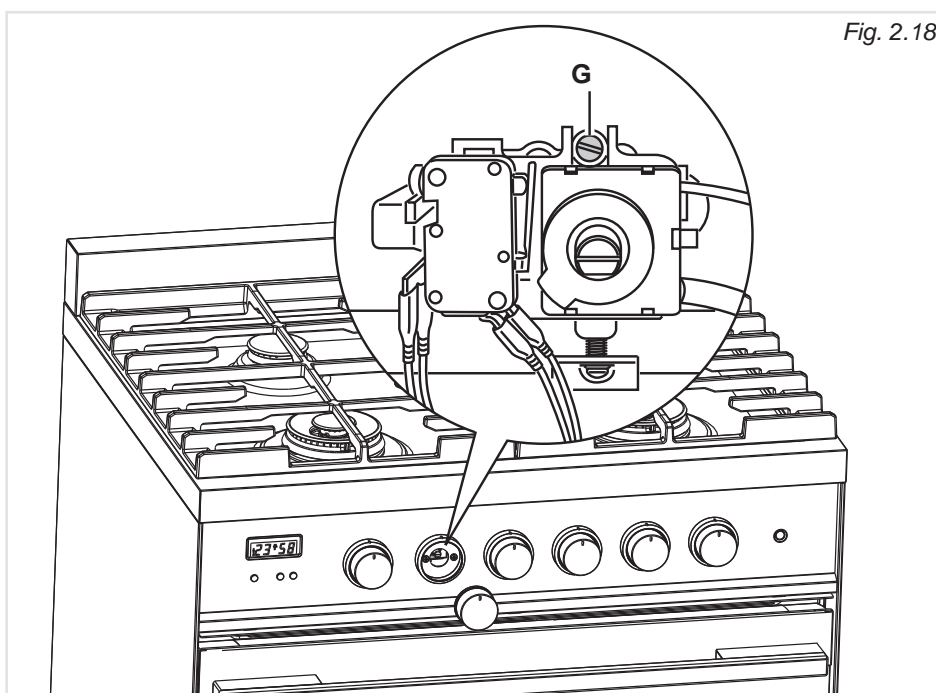

Fig. 2.18
- Remove the knob and unscrew the by-pass screw "G" (fig. 2.18) about three times by passing a small flat screwdriver (Ø 3 mm blade, 100 mm length) through the panel opening.
- After having removed the knob again and being very careful not to turn the tap rod, slowly screw the by-pass screws "G" (fig. 2.18) until you obtain a flame of 3-4 mm in height. The flame should not go out even when passing suddenly from maximum to minimum flame.